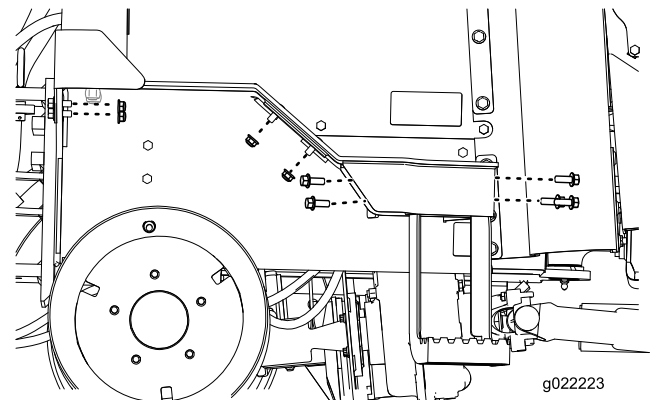

Figure 11
3. Remove the step extension from the machine (Figure 11).